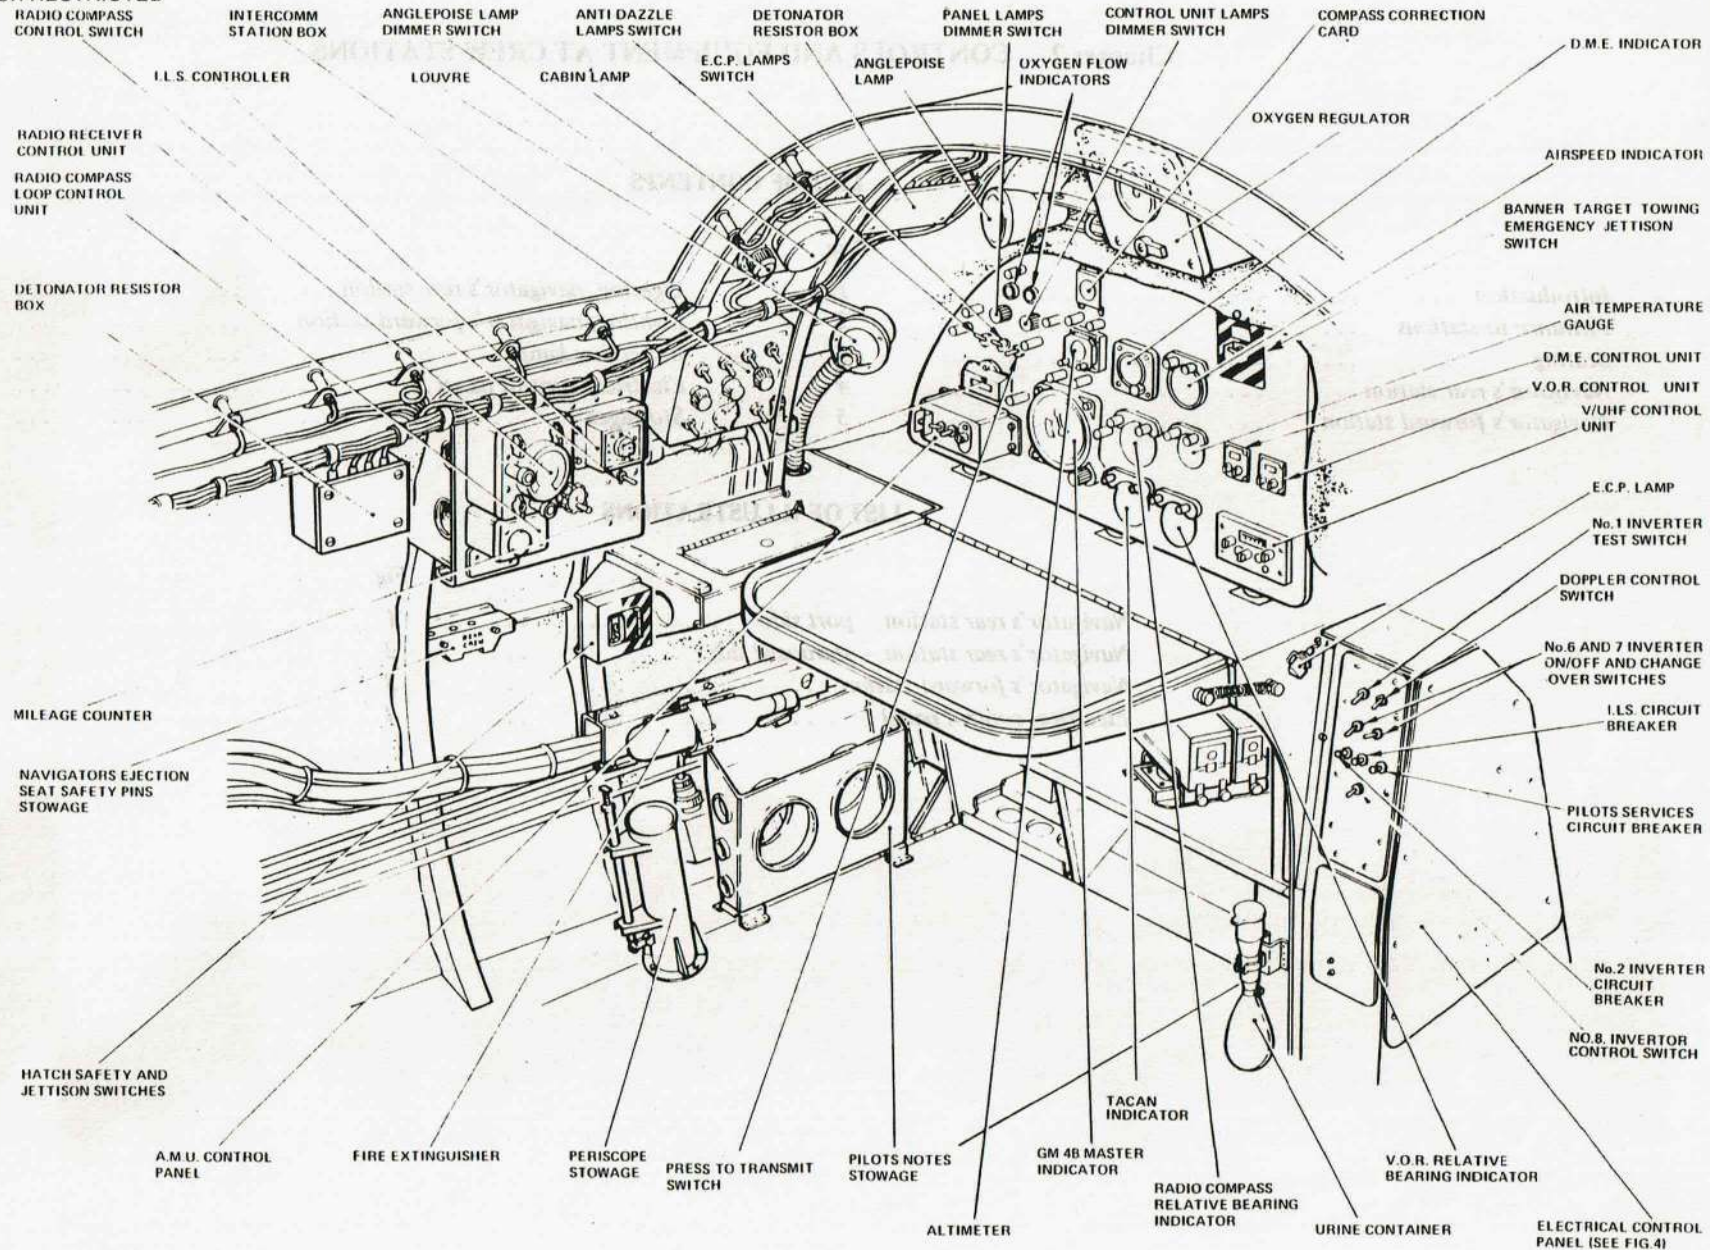

FIG.1.NAVIGATORS REAR STATION PORT SIDE
1. This chapter provides general information on the disposition and function of controls and equipment at the navigator's two stations. The controls and equipment are illustrated in fig.1 to 4.
Navigator's rear station (*Fig.1 and 2*)